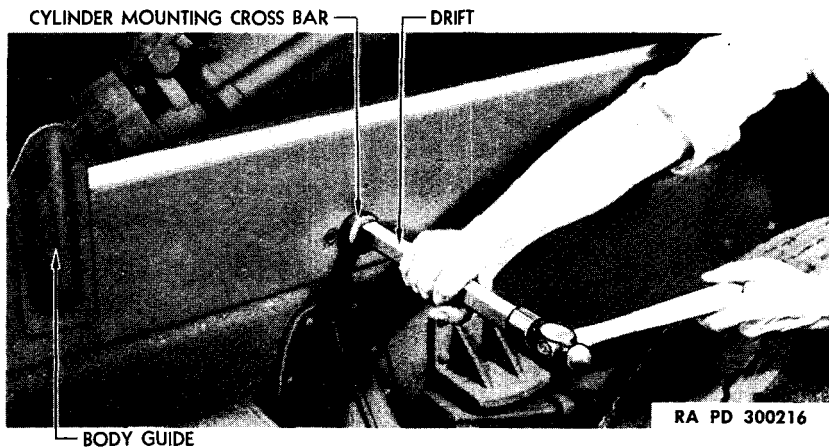

Figure 130—Removing Cylinder Mounting Cross Bar
(6) On Galion hoist, remove hoist support bar cotter pin lock screw and cotter pin (fig. 124). Using suitable drift and hammer, drive the bar through the subframe. Continue to drive until cylinder is free (fig. 130).
(7) On Anthony hoist, remove the hoist pivot bracket to subframe bolts on left- and right-hand side.
(8) Work piston rod free of knuckle and lift cylinder assembly from subframe.